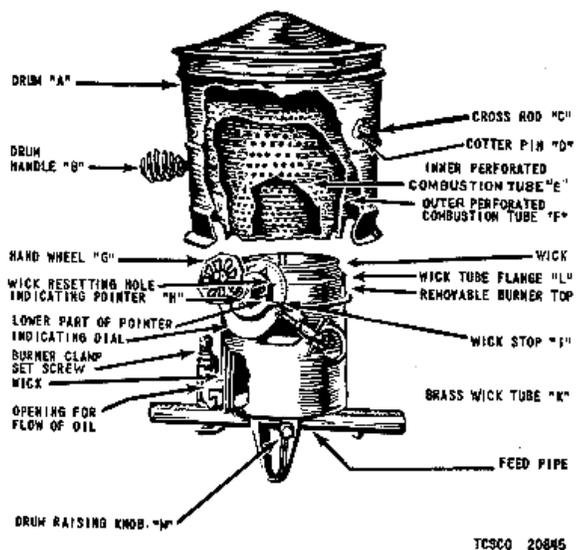
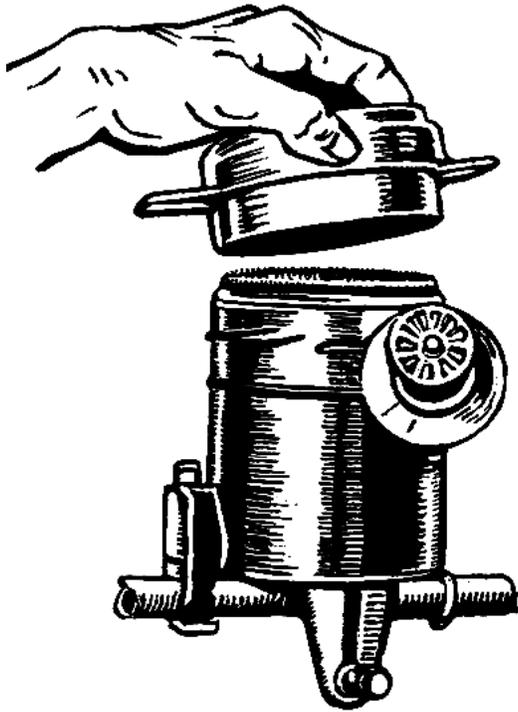

Figure 34. Cross section of kerosene burner.
Figure 36. Dismantling burner for cleaning.
Before operating the water heater, see that the wick is properly set in the following manner (fig. 34).
Fill the oil reservoir and see that all parts of the burner are in place as shown in figure 34, with the drum (A) in raised position. Drum is raised by means of a small handle (M) in the slot below the feed pipe. Turn the hand wheel to the right until indicator pointer rests against wick stop. Light the wick in several places, then lower drum gently in place by lowering handle (M) in the slot. Turn drum to the right and left by means of handle (B) to make sure that it rests evenly on the wick tube flange (L). Three to five minutes are required for the flame to reach its fullest height. The high flame should be clear blue in color, but when burner has been operating at low and is turned to high it will burn yellow for a short time.
- Turn hand wheel to left as far as it will go. *b.* When the flame has gone out, raise the drum by means of lifter handle (M) leaving it in the raised position as shown in figure 34. Leaving the drum in a raised position prevents oil from creeping up on
a. First remove burner drum, then raise the wick even with the top of the tubes. Scrape all carbon crust from the top of the wick with the edge of the cleaning tool furnished with the stove. Do not try to clean the wick too thoroughly as this unnecessarily wastes it. A certain amount of char on the edge of the wick gives a perfect flame. Now turn the wick down into the wick tube as far as it will go. Remove the screw top by taking hold of the wire handles and turning a quarter turn to the left (fig. 36). Scrape inside and outside of the screw top thoroughly, being careful to remove all dirt and carbon from the flange (L, fig. 34) on which the drum and combustion tube rest. Brush all loose particles of carbon or scale from the wick tubes and flange. Then wipe with a dry cloth and replace burner top and drum. See that holes in combustion tubes are clean and open.